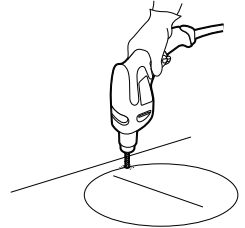

Fig. 11
1. Use a suitable drill to drill a hole of at least 12 mm on the cutting line (Fig. 11).
2. Insert the saw blade (23) that is fitted to the product into the hole and ensure it does not touch the workpiece.